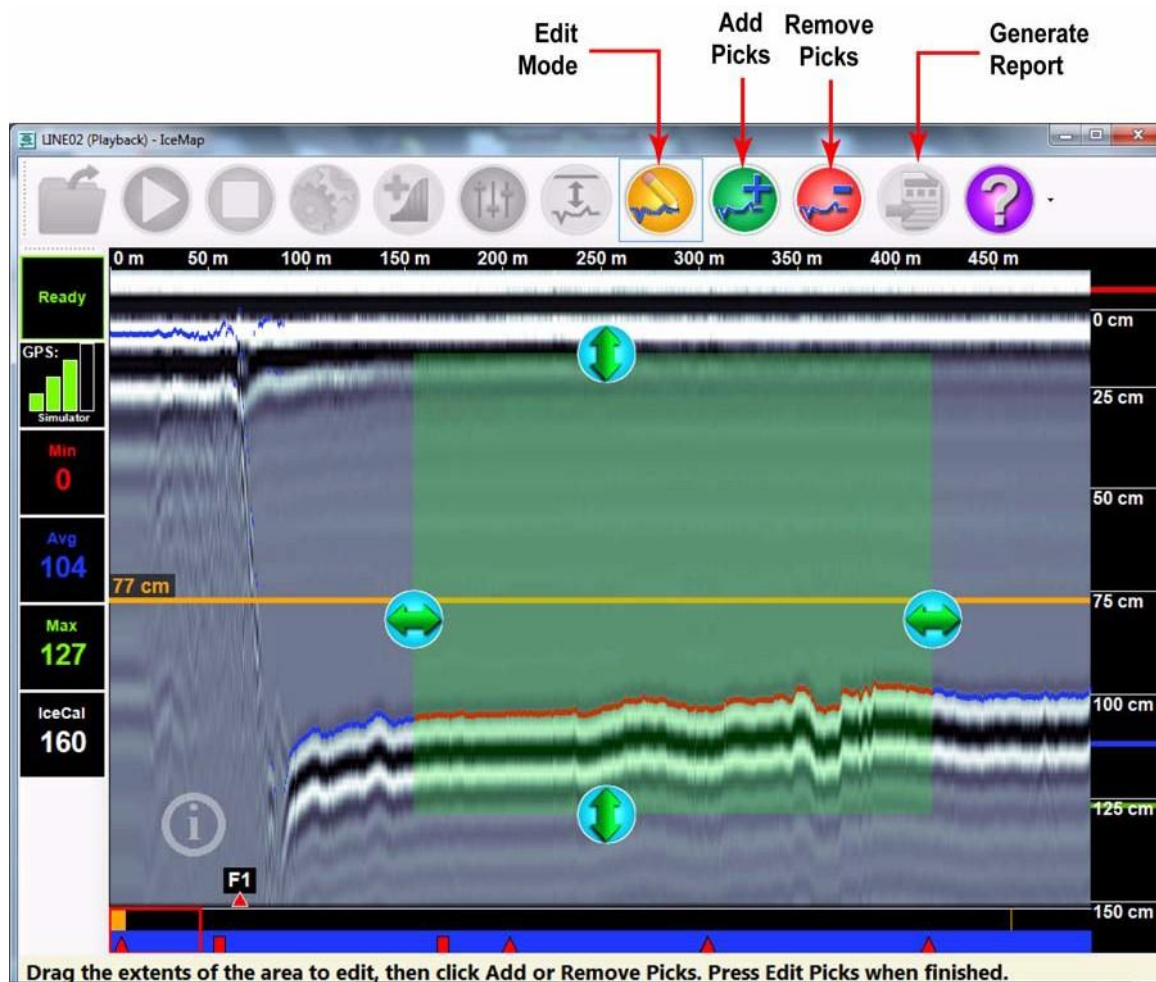

Figure 10-2: IceMap Editing Mode
- 2) In the ToughBook touch screen, to select the area of the survey that you want to edit, click and drag the arrows on each side of the green selector box to define the position range you want to edit. Then click and drag the arrows on the top and bottom of the green selector box to define the depth range you want to edit (see Figure 10-2).